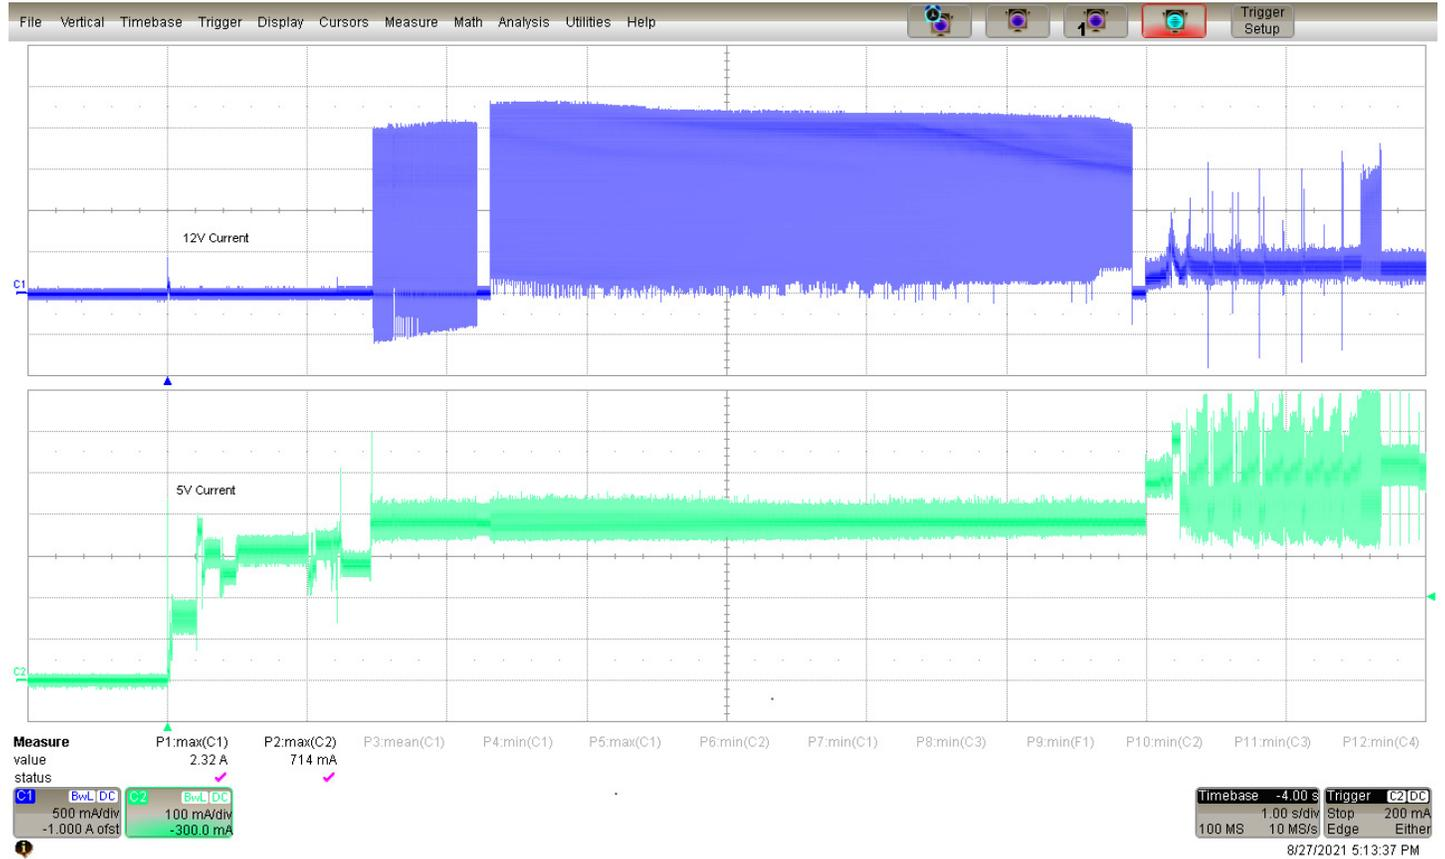

Figure 1. Exos X22 current profiles.
- [3] See +12V current profile in Figure 1.